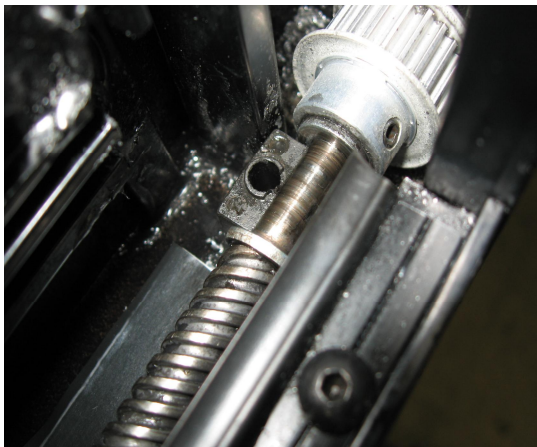

Figure 12
- 8) Reverse the above mentioned procedure to install the new belt. There are 2 washers on the drive shafts. They must be located on either side of the shaft support block as shown in figure 12